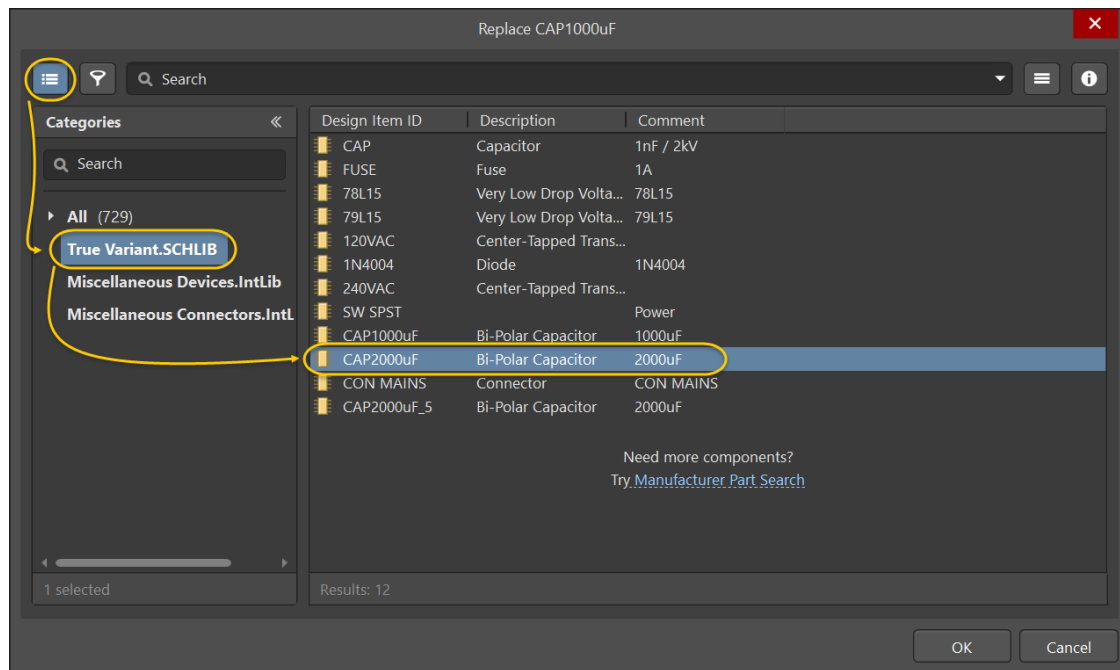

Figure 12. Alternate part selection
34. To see the libraries and components available to you, ensure to enable the triple line icon to expand the panel as shown in Figure 12.